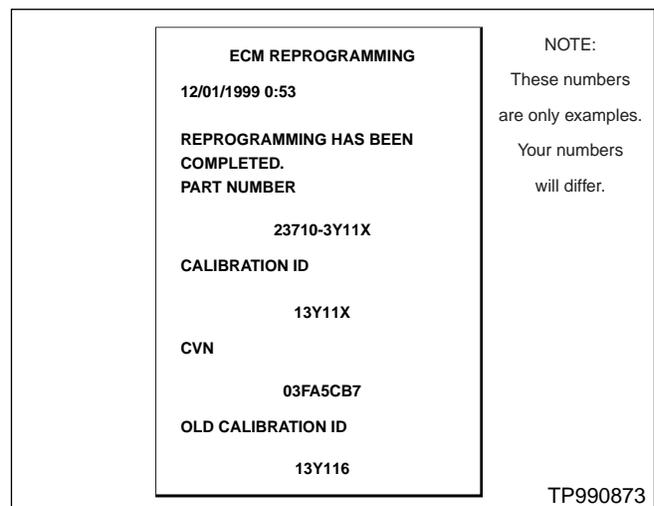

Figure 19
27. When the Reprogramming is complete, CONSULT-II will "beep", turn the screen backlight back ON and automatically print out a report (see Figure 19).